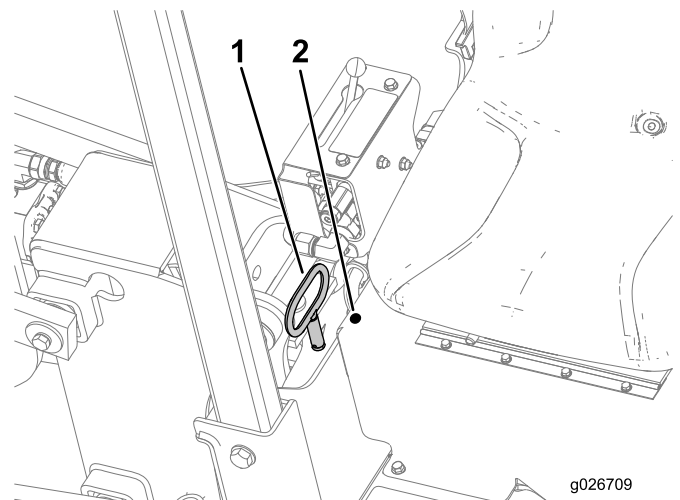

Figure 10
1. Remove the rotation pin, place it in the storage location, and start the engine (Figure 10).